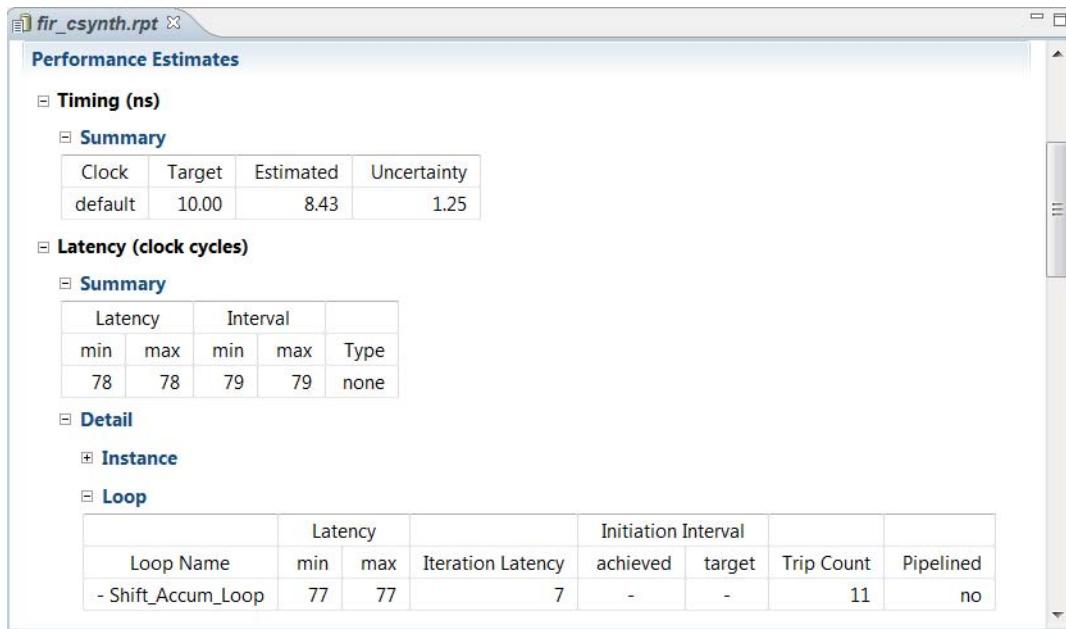

Figure 2-11: Performance Estimates
2. Click **Performance Estimate** in the Outline tab (Figure 2-11).